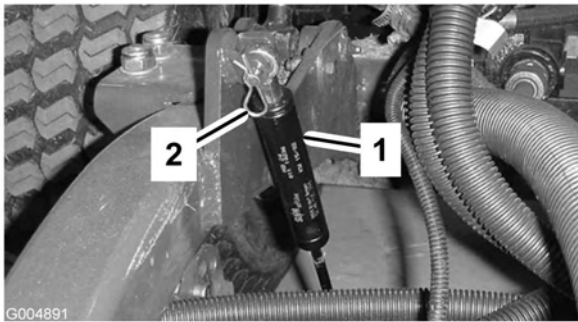

Figure 79
2. Remove the hairpin cotter securing dampers to lift arms (Figure 79). Pivot damper toward deck housing.